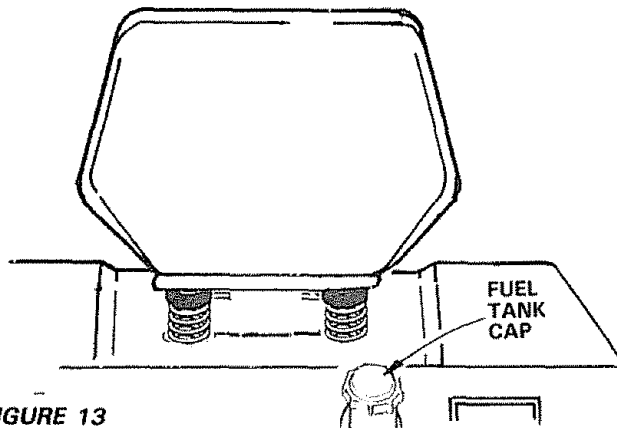

FIGURE 13
- Fill fuel tank (Fig. 13). Use fresh, clean, regular unleaded automotive gasoline. (Use of leaded gasoline will increase carbon and lead oxide deposits and reduce valve life). Capacity is 3-1/2 gallons.